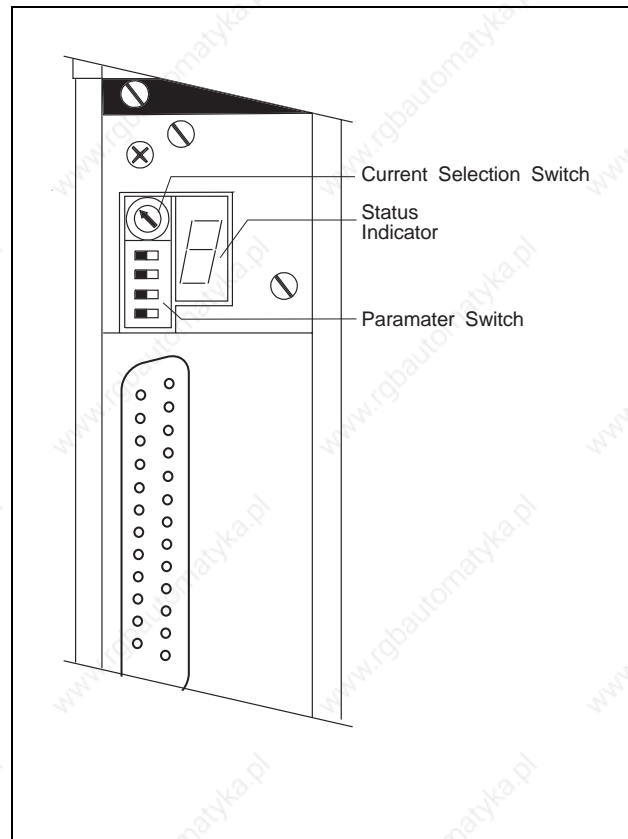
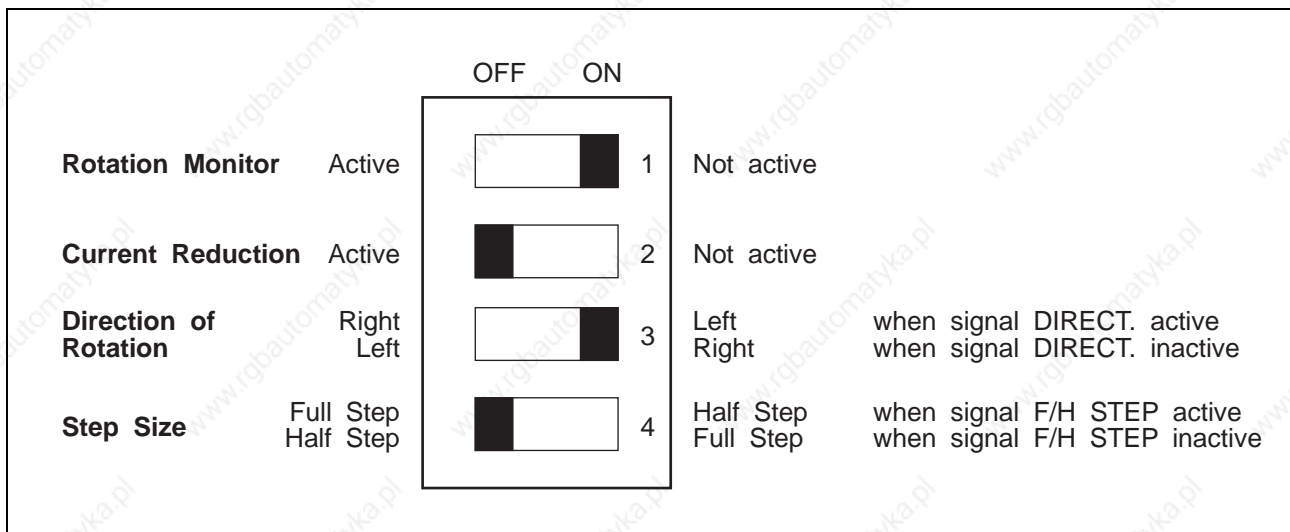

Figure 2-10 Adjustment Elements
Figure 2-13 Switch Settings Parameter Switch
The basic adjustments are made with the Current Selection Switch and the Parameter Switch (see figure 2-10) as follows:
- The automatic power reduction should, if possible, always be switched on in order to reduce the power dissipation (see figure 2-13).
1. Adjust desired parameters according to figure 2-13 with the DIL switch 03 (see figure 2-10). The basic adjustment as set by BERGER LAHR is depicted.
Dependent on the adjustment of the parameter switch 03/4 (see figure 2-13):
Dependent upon the position of the Parameter Switch 03/3 (see figure 2-13):
- During activation of the RM RESET, an active current reduction is blocked (see figure 2-13).